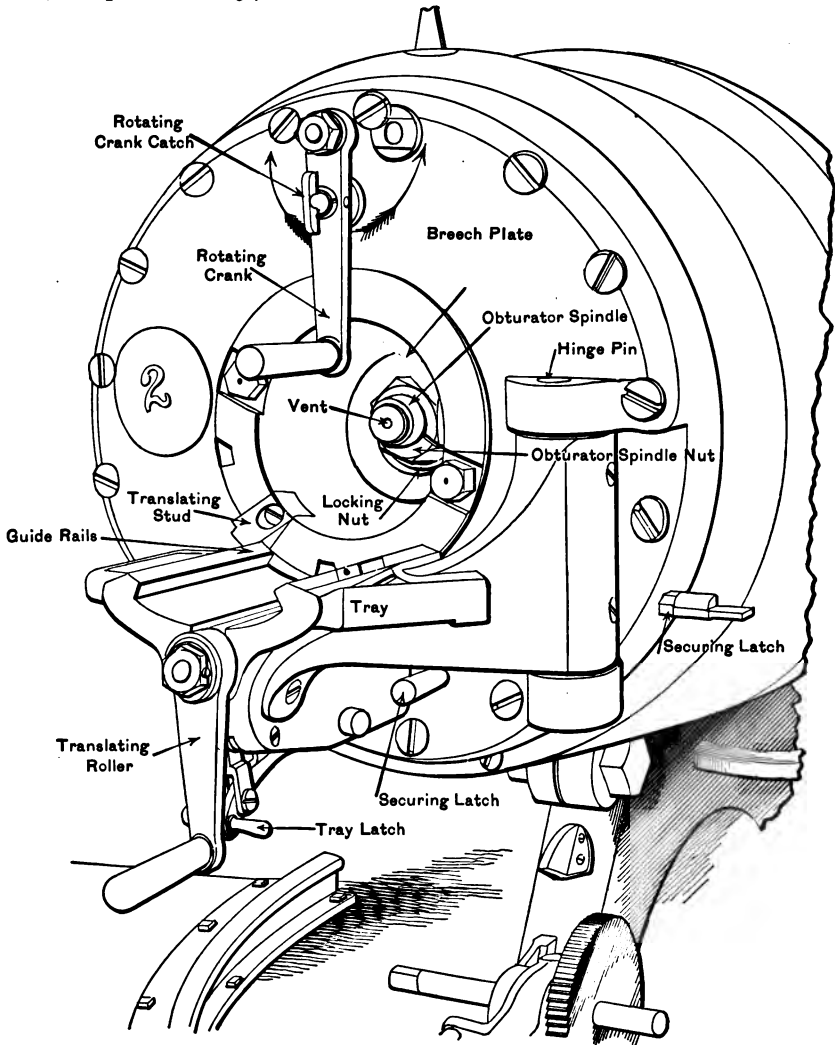
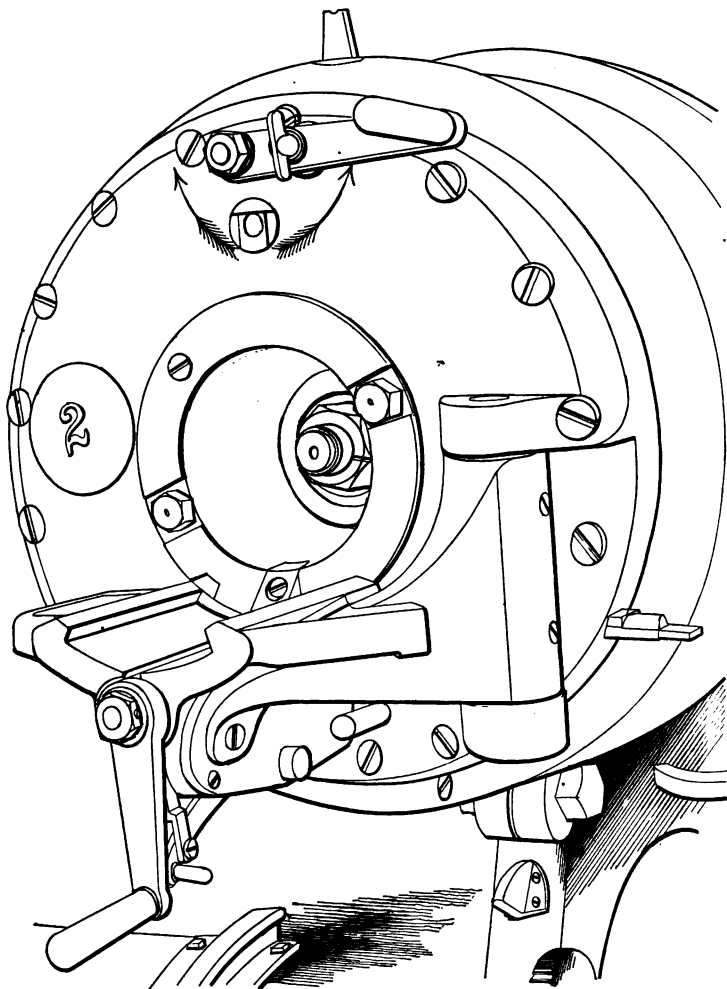

FIG. 1.
FIG. 2.
A. Figure 1 shows breech in normal position—closed. No. 2 turns rotating crank-catch  $90^\circ$  to left and turns rotating-crank in the direction of the arrow till it stops (Fig. 2).